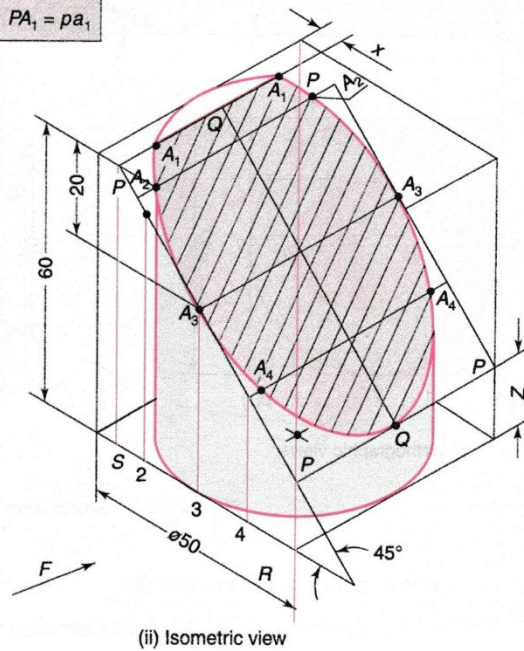

Fig. 13.76 Truncated cylinder
**Solution** Refer Fig. 13.76. (See page 13.34)